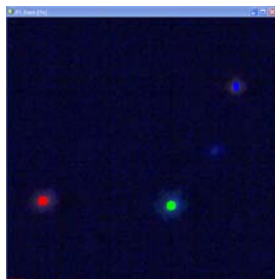

Figure 1. Zoom window with the ROIs (red, green and blue)
3. Right click on the zoom window, click ROI Tool. Add circular ROIs over the three largest NPs as shown (see Figure 1). The ROI tool box opens. In the zoom image, draw a circle around the lower left particle, then double right click to complete circle and a red overlay appears. In ROI tool box click New Region. Draw a circle around the middle particle, then double right click to complete circle and a green overlay will appear. Repeat as necessary.